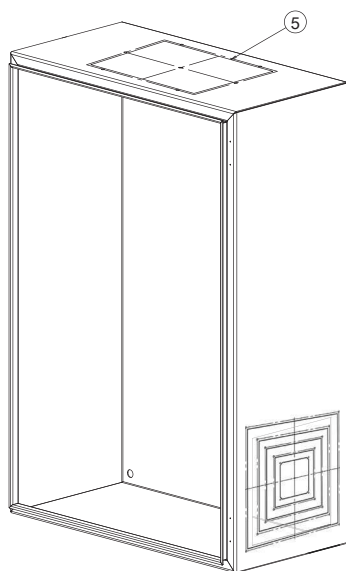
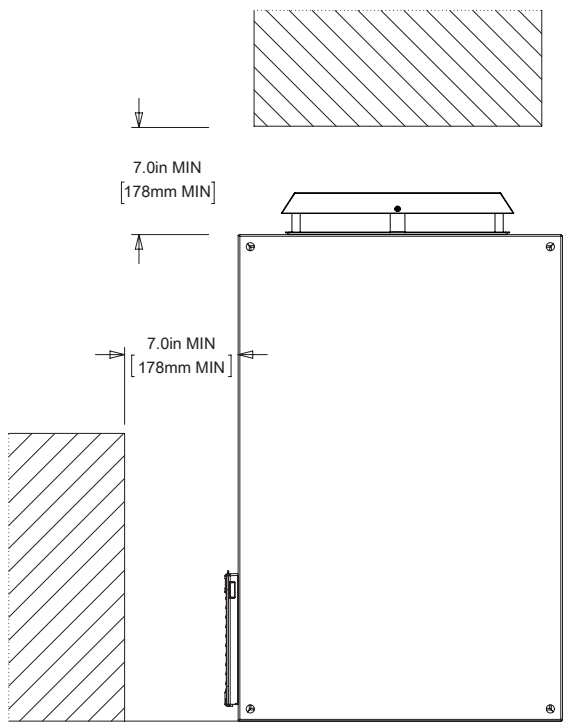

Figure 1
Figure 3
1. Apply cutout template item 5 to the top of the enclosure located as desired. See Figure 1.
4. Remove cowl top from top-mount filter fan, item 1.
5. Apply gasket, item 3 to enclosure.
6. Insert top-mount filter fan over gasket and into cutout hole and fasten with M6 hex nuts, item 4. Torque to 35 in/lbs (4 Nm).
7. Install filter item 2 around filter fan.
10. Verify the location of the enclosure with installed top-mount filter fan and grilles has a minimum clearance of 7.00 (178 mm). See Figure 3 on page 5